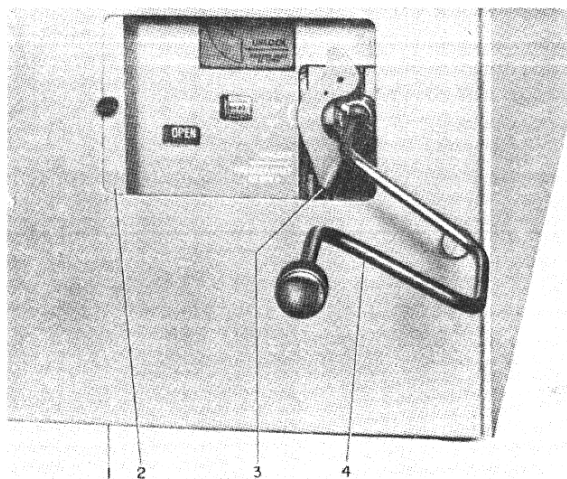

Fig. 4 — Method of Racking Circuit Breaker
Engage racking crank (4, Fig. 4) and push racking unlocking lever (3) to left, then rotate racking crank counterclockwise only until resistance to motion is felt. (DO NOT FORCE.)
To rack circuit breaker to "TEST" position, push racking unlocking lever (3, Fig. 4) to left, rotate racking crank approximately $\frac{1}{4}$ turn clockwise, then release unlocking lever. Continue cranking until racking mechanism automatically stops at "TEST" position.
FOR SAFETY: When racking circuit breaker to "CONNECTED" position, close compartment door (1, Fig. 4) and insert racking crank (4, Fig. 4) through sliding panel (2, Fig. 4).
(See Fig. 4)